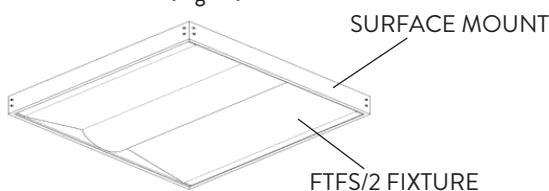

FIG. 13
- 5 After the Surface Mount Kit is properly installed, this is how the FTFS/2 fixture should look (Fig. 13).